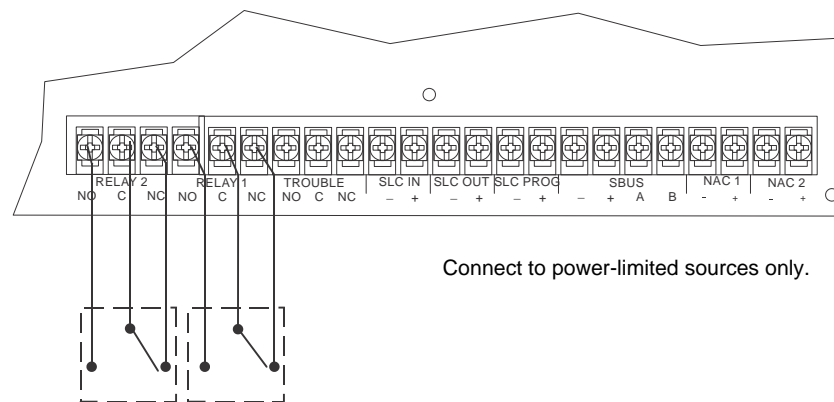

Figure 4.25 Location of Conventional Relay Circuits
1. Wire Relay 1 and/or Relay 2 as needed for your application. See Figure 4.25 for the location of the relay terminals.